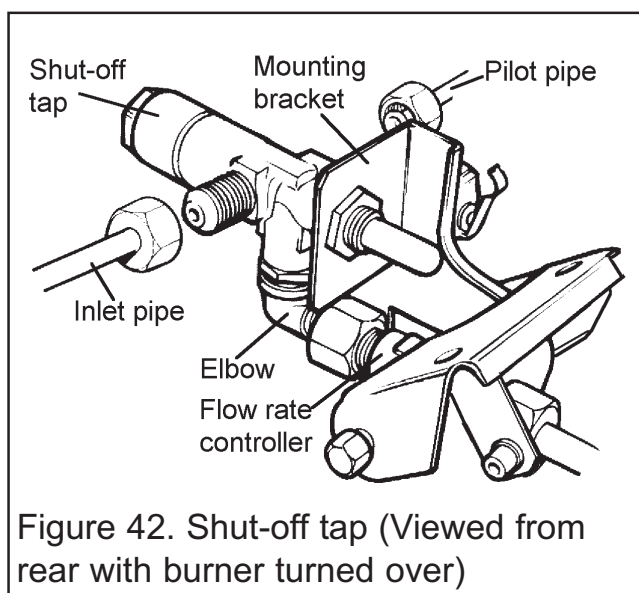

Figure 42. Shut-off tap (Viewed from rear with burner turned over)
- iii) Carefully lift the fascia upward to clear the upper retaining brackets on the convection box (See figure 42). Pull the fascia clear and place carefully aside.
(See figure 42).